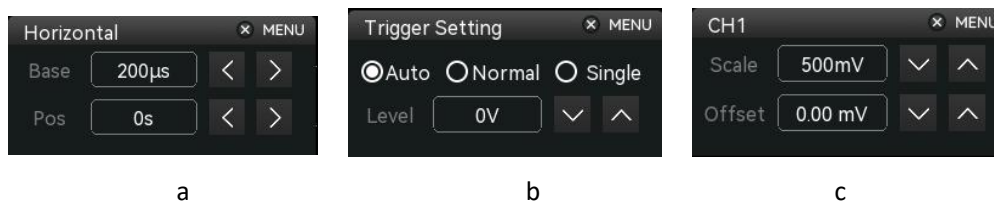

Figure 4-7
2. Time base scale: Indicates the amount of time represented by one grid, which can be adjusted by SCALE knob on the horizontal control area, a time base scale will pop up on the screen when the time base scale changes. Tap time base scale to pop out horizontal interface as show in Figure 4-7(a), time base scale can change by using numeric keypad, ,  and SCALE knob .
6. Horizontal displacement: Display the horizontal displacement value of waveform. Change this parameter by using POSITION knob on horizontal control area. Press POSITION knob on horizontal control area to make horizontal displacement value turn to 0. Tap time base scale to pop out horizontal interface as show in Figure 4-7(a), horizontal displacement value can change by using numeric keypad, ,  and POSITION knob.
- f. Tap trigger status area to pop out trigger setting interface as shown in Figure 4-7(b). Trigger level value and trigger coupling mode can change by using numeric keypad, ,  and LEVEL knob.
- g. Tap vertical state area to pop out channel 1 interface as shown in Figure 4-7 (c) Volts/div scale, vertical displacement value can be changed by using numeric keypad, ,  and vertical SCALE knob and vertical Position knob.